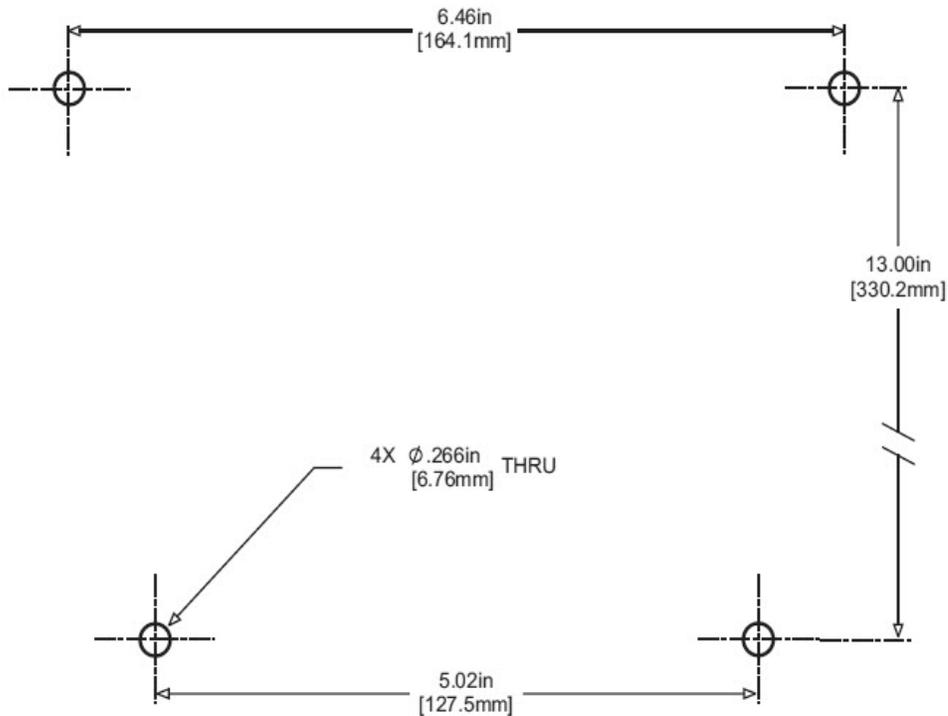

Figure 2-1 Hole pattern for mounting 28 m or 8 m measurement cell
1. Mark the mounting holes on the panel. Refer to Figure 2-1. Drill four clearance holes, if using machine screws, or drill and tap four 1/4-20 holes, if using studs.